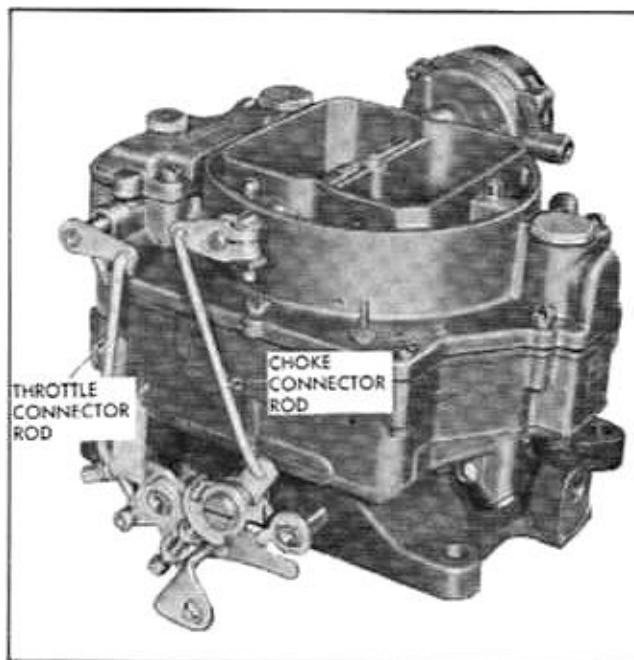

Fig. 6B-10 Throttle and Choke Connector Rods
6. Remove idle vent arm and screw (Fig. 6B-11).